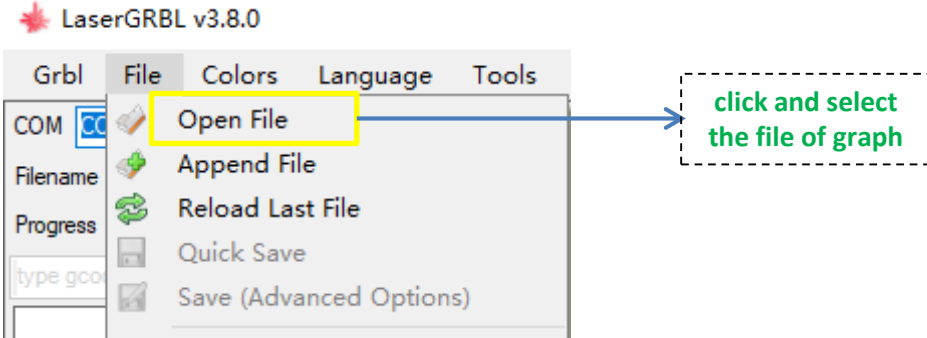

Figure 8.1
8.1. Click "file" and "open file" in turn, as shown in figure 8.1, and then select the graph you want to engrave. Currently, LaserGRBL supports files in the formats of NC, BMP, JPG, PNG, DXF, etc.